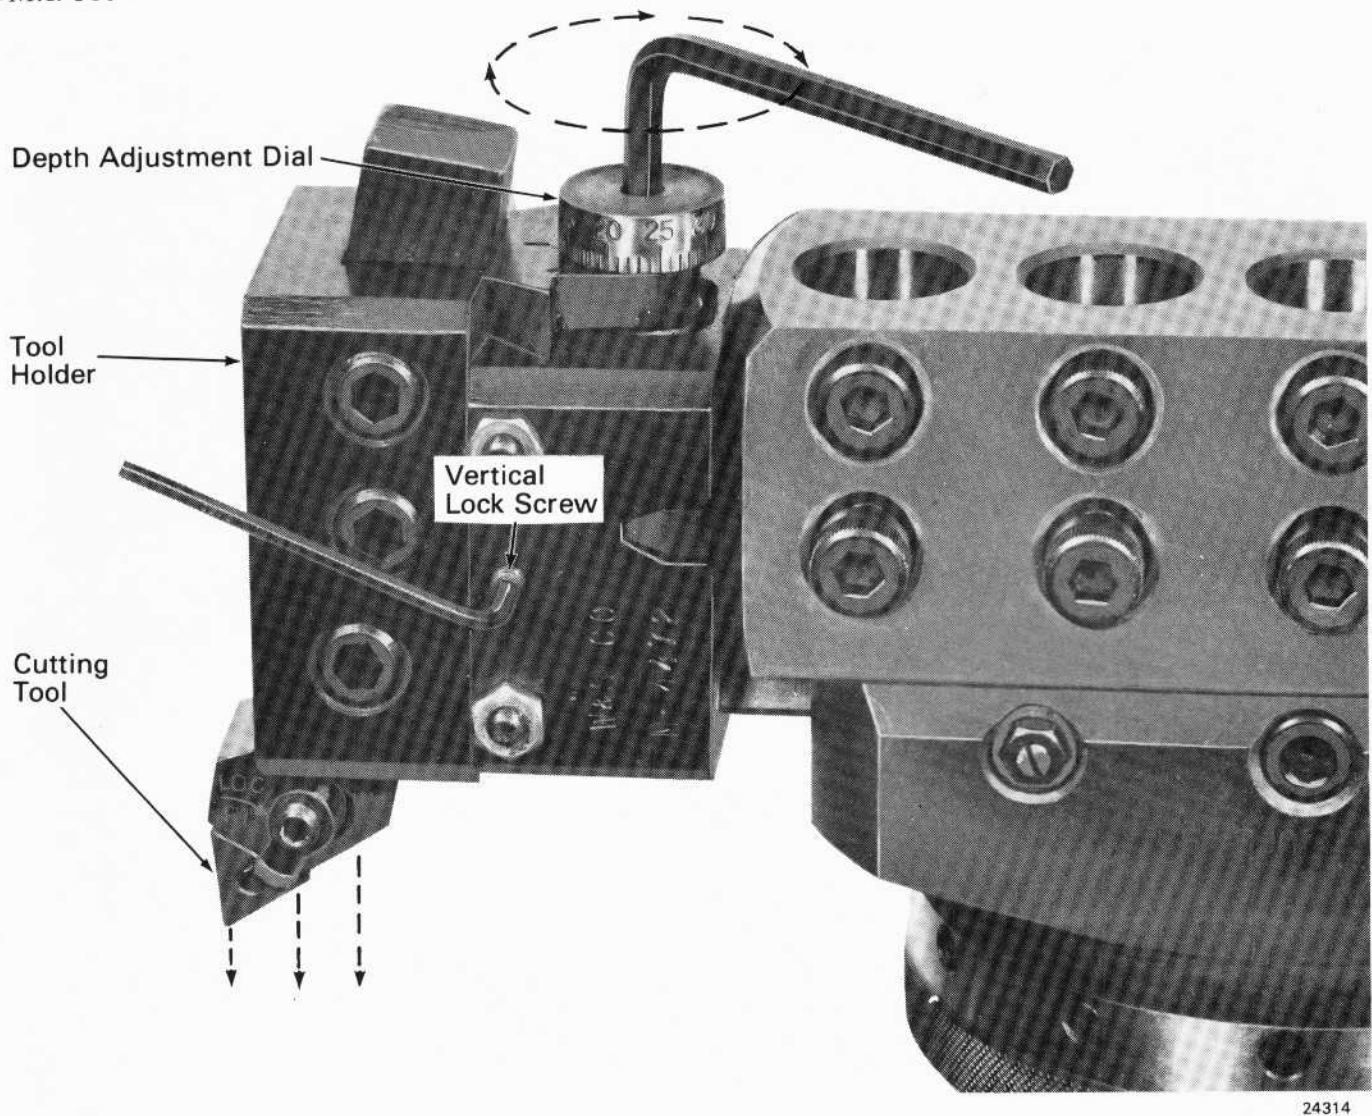

Fig.11 – Setting Depth Of Cut
1. Loosen vertical lock screw, Fig. 11.